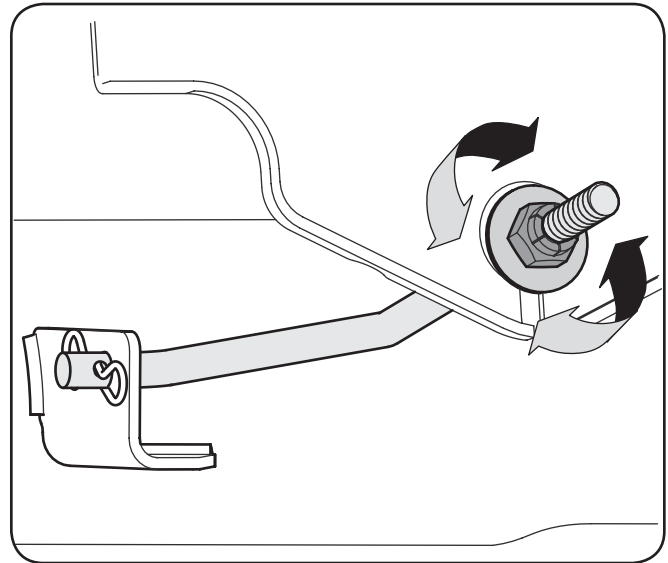

Figure 6-4
3. Locate the jam nut and lock nut on the front side of the stabilizer bracket. See Figure 6-4 After loosening the jam nut: